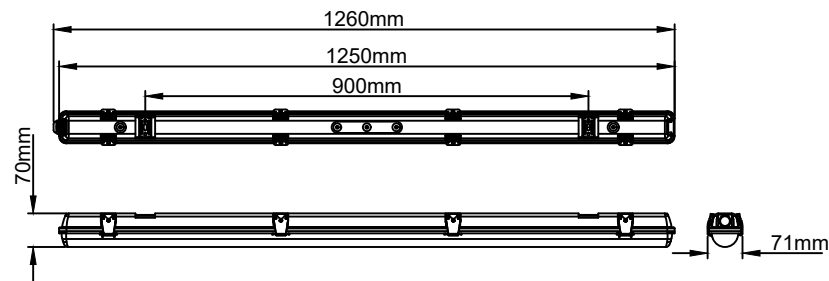

Fig. 1
*This product is suitable for suspending using the supplied metal suspension kit that hooks either side of the fixing bracket as per Fig.1